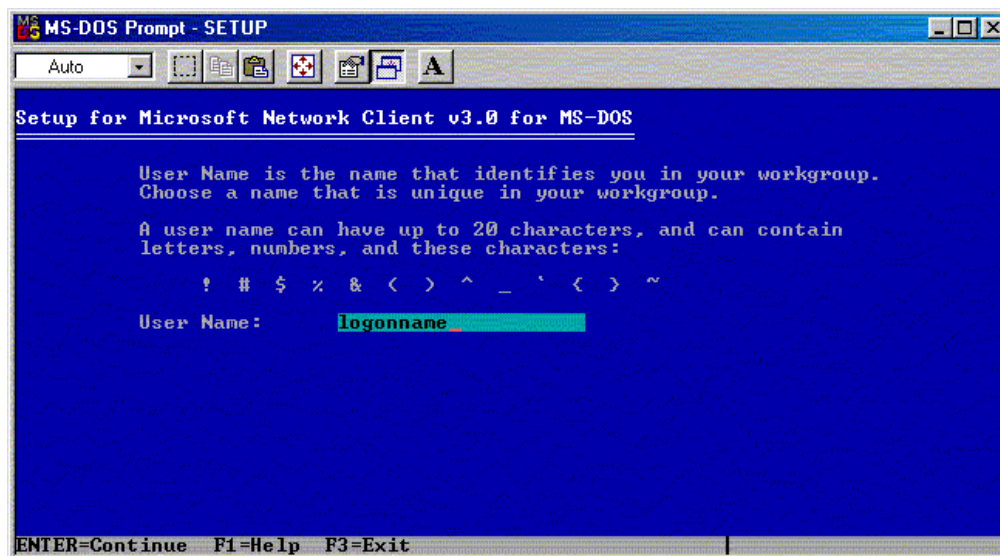

Figure A-9: User name specification
7. Press the **Enter** key to set the network buffers for optimal performance. A screen similar to Figure A-9 is displayed and prompts for the network logon user name.